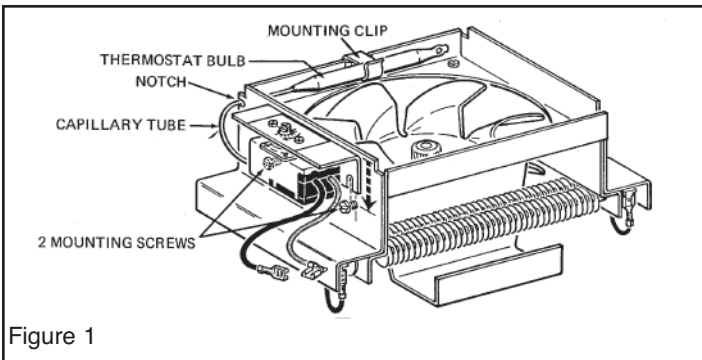

Figure 1
1. Loosen the two screws on the side of the motor assembly (See Figure 1).
3. Run the capillary tube thru the notch on the left side of the unit as shown in Fig. 1 and then tighten the two screws holding the bracket.